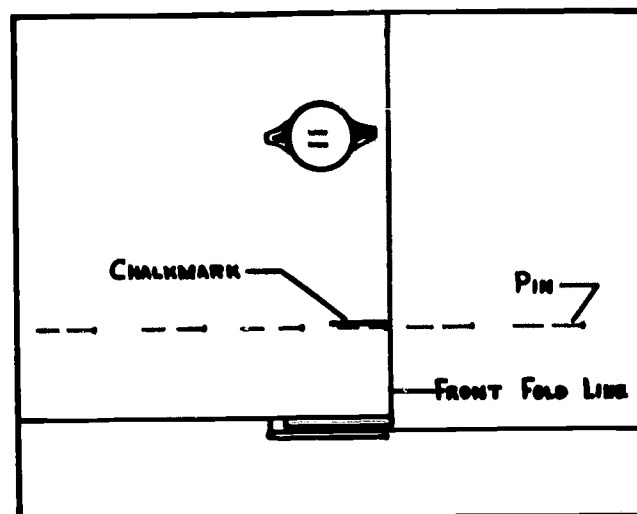

Figure 19.
8. After buttoning and smoothing the coat, make a chalk mark across both front edges. Put a pin in at the chalk mark, being careful to catch only the top layer. This helps to insure that the front edges of the coat will be even when it is finished. Pins are used because the chalk mark will be removed during pressing (see Figure 19).